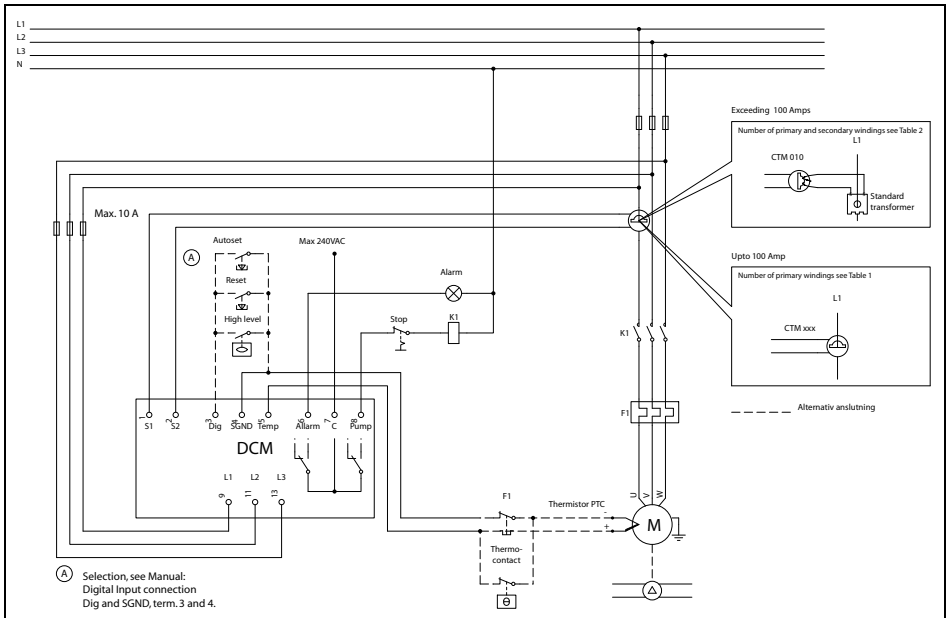

Fig. 13 Single-pump system installation example (alternatively see Chapter 13).
Connect the Emotron DCM (3-phase installation only) directly to the pump motor supply cable via terminals 9 (L1), 11 (L2), and 13 (L3). Make the connection ahead of the contactor of the motor, to ensure that the DCM also receives power when the motor is not in use. When motor fuses larger than 10 A are used, the DCM (power consumption 6 VA) must be fused independently, see Fig. 13, page 25.
Connect the current transformer CTM xxx to terminal 1 (S1, blue wire) and terminal 2 (S2, brown wire). The transformer **MUST** be linked to the phase connected to terminal 9 (L1), see Fig. 13.
NOTE: Before connecting the current transformer(s), study the choice of current transformers carefully to determine the correct number of windings. The current transformer **MUST be linked to the phase connected to terminal 9 (L1), see Fig. 13, page 25.**
Terminal 8 (PUMP) is an operating relay output. Terminal 7 (C) is the common input for the operating relay, see Fig. 13, page 25.
See Fig. 13, Table 8, page 53 and window 53.
Terminals 4 and 5 are the temperature-measuring input and/or motor protection contact connections. The motor protection relay can be connected in series with the temperature sensor. Terminal 5 (TEMP) is for a PTC-type thermistor or thermo contact. Terminal 4 (SGND) is the signal ground for the temperature-measuring input. See Fig. 13, Table 8 and windows 31 and 32.
7. In window 31, if the pump has a temperature sensor and/or motor protection, set the temperature monitoring to (on). If not, set the window to (OFF). See Section 8.5, page 42 and Fig. 13, page 25.
13. In window 53 set the required function for the digital input (DIG). Value: (1) high-level switch, (2) external reset, (3) external Auto set.
14. Connect the start and stop equipment to terminal 8, see Fig. 13, page 25.